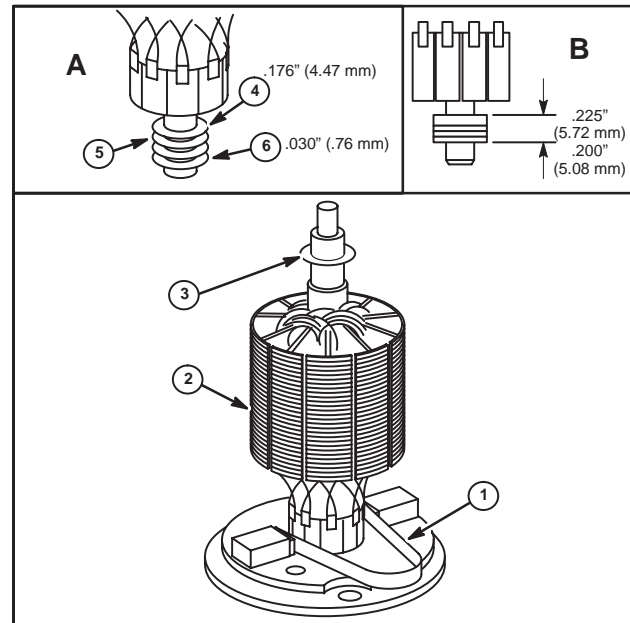

Fig. 37
Assemble Starter Motor – Armature to End Cap Assembly, Fig. 37
1. Insert brush springs and brushes in holders as far as possible, and hold them in position with brush retainers (1), Fig. 37.
2. Place thrust washers on armature shaft in sequence shown, Inset "A": felt washer (4), steel washer (6), and add gray plastic washers (5) to obtain dimension in Fig. 37, Inset "B" (System 3®, 4®).
3. Using care to ensure brushes clear commutator, slide armature shaft into end cap bearing, Fig. 37.
9. If necessary, install or remove gray plastic washers between armature and end head to adjust end play for .005" (.13 mm) to .025" (.64 mm) armature movement (System 3®, 4®), Fig. 37.